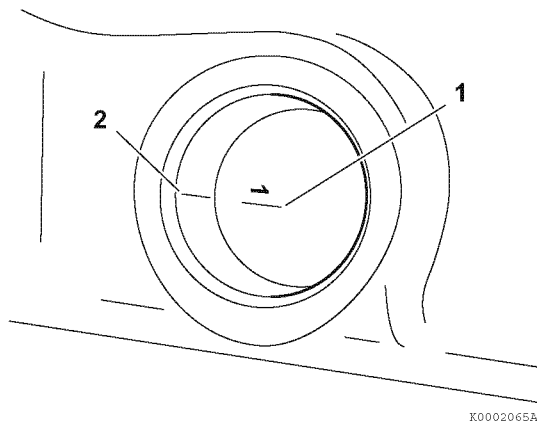
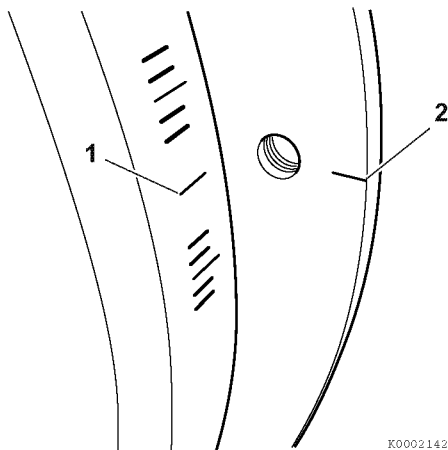
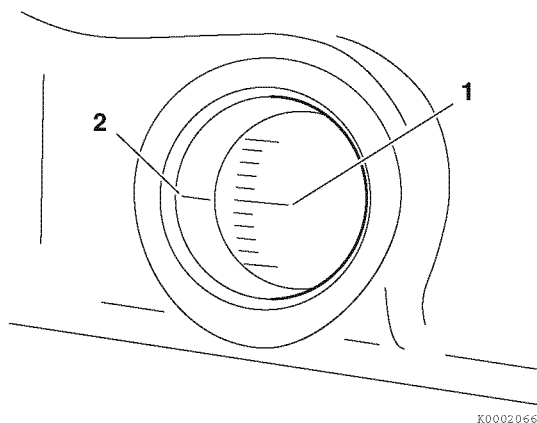

Figure 7-30
Figure 7-31
Figure 7-32
- Highlight the timing reference mark on the flywheel housing (**Figure 7-30, (2)**) or engine back plate (**Figure 7-31, (2)**). Highlight the TDC (Top Dead Center) mark (**Figure 7-30, (1)**), (**Figure 7-31, (1)**) on the flywheel.
10. Highlight the target timing mark (**Figure 7-31, (1)**), (**Figure 7-32, (1)**) on the flywheel timing grid.
18. Check the position of the flywheel target timing mark (**Figure 7-32, (1)**) on the flywheel grid in relation to the timing reference mark (**Figure 7-32, (2)**) on the flywheel housing or back plate. If the two marks are aligned, the fuel injection timing is correct. If the marks do not align, the fuel injection timing must be adjusted. See *Adjusting Fuel Injection Timing* on page 7-22.